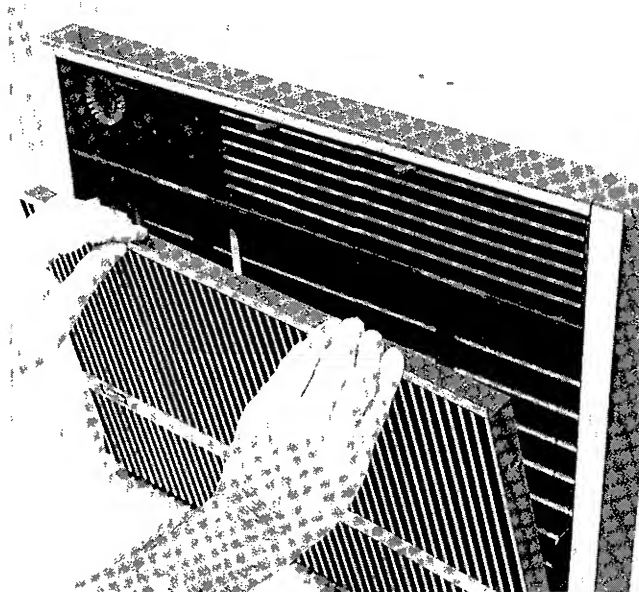

Fig. 2 — Removing Grille Insert
- 1 **Grille** — Decorative front grille insert is removed by gripping top of insert and pulling outward while lifting insert from grille frame. See Fig. 2